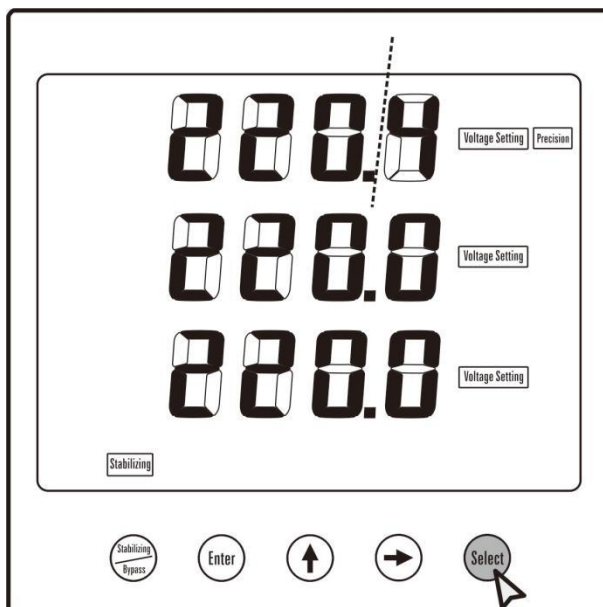

Fig. 5
⑤ The first three digits of each row indicate the voltage setting an - voltage setting bn - voltage setting cn, and the digit after the point in the first row indicates the precision, as shown in Fig. 5;